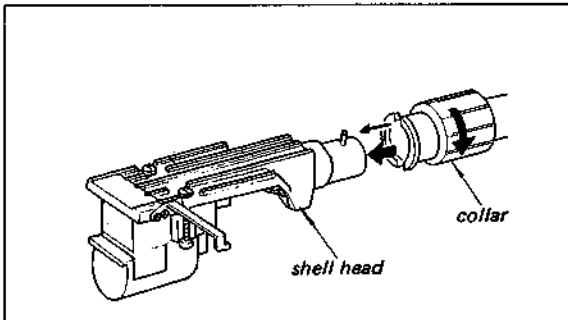

Fig. 2-11. Shell head removal
2. Remove the shell head from the tonearm by loosening the collar as shown in Fig. 2-11.
1. Remove the shell head from the tonearm by loosening the collar as shown in Fig. 2-11.